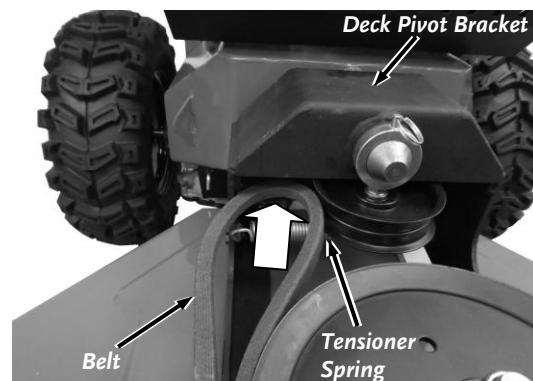

Figure 37
7. To install a new Belt, insert the Belt over the Tensioner Spring and through the inside of the Deck Pivot Bracket (**Figure 37**).